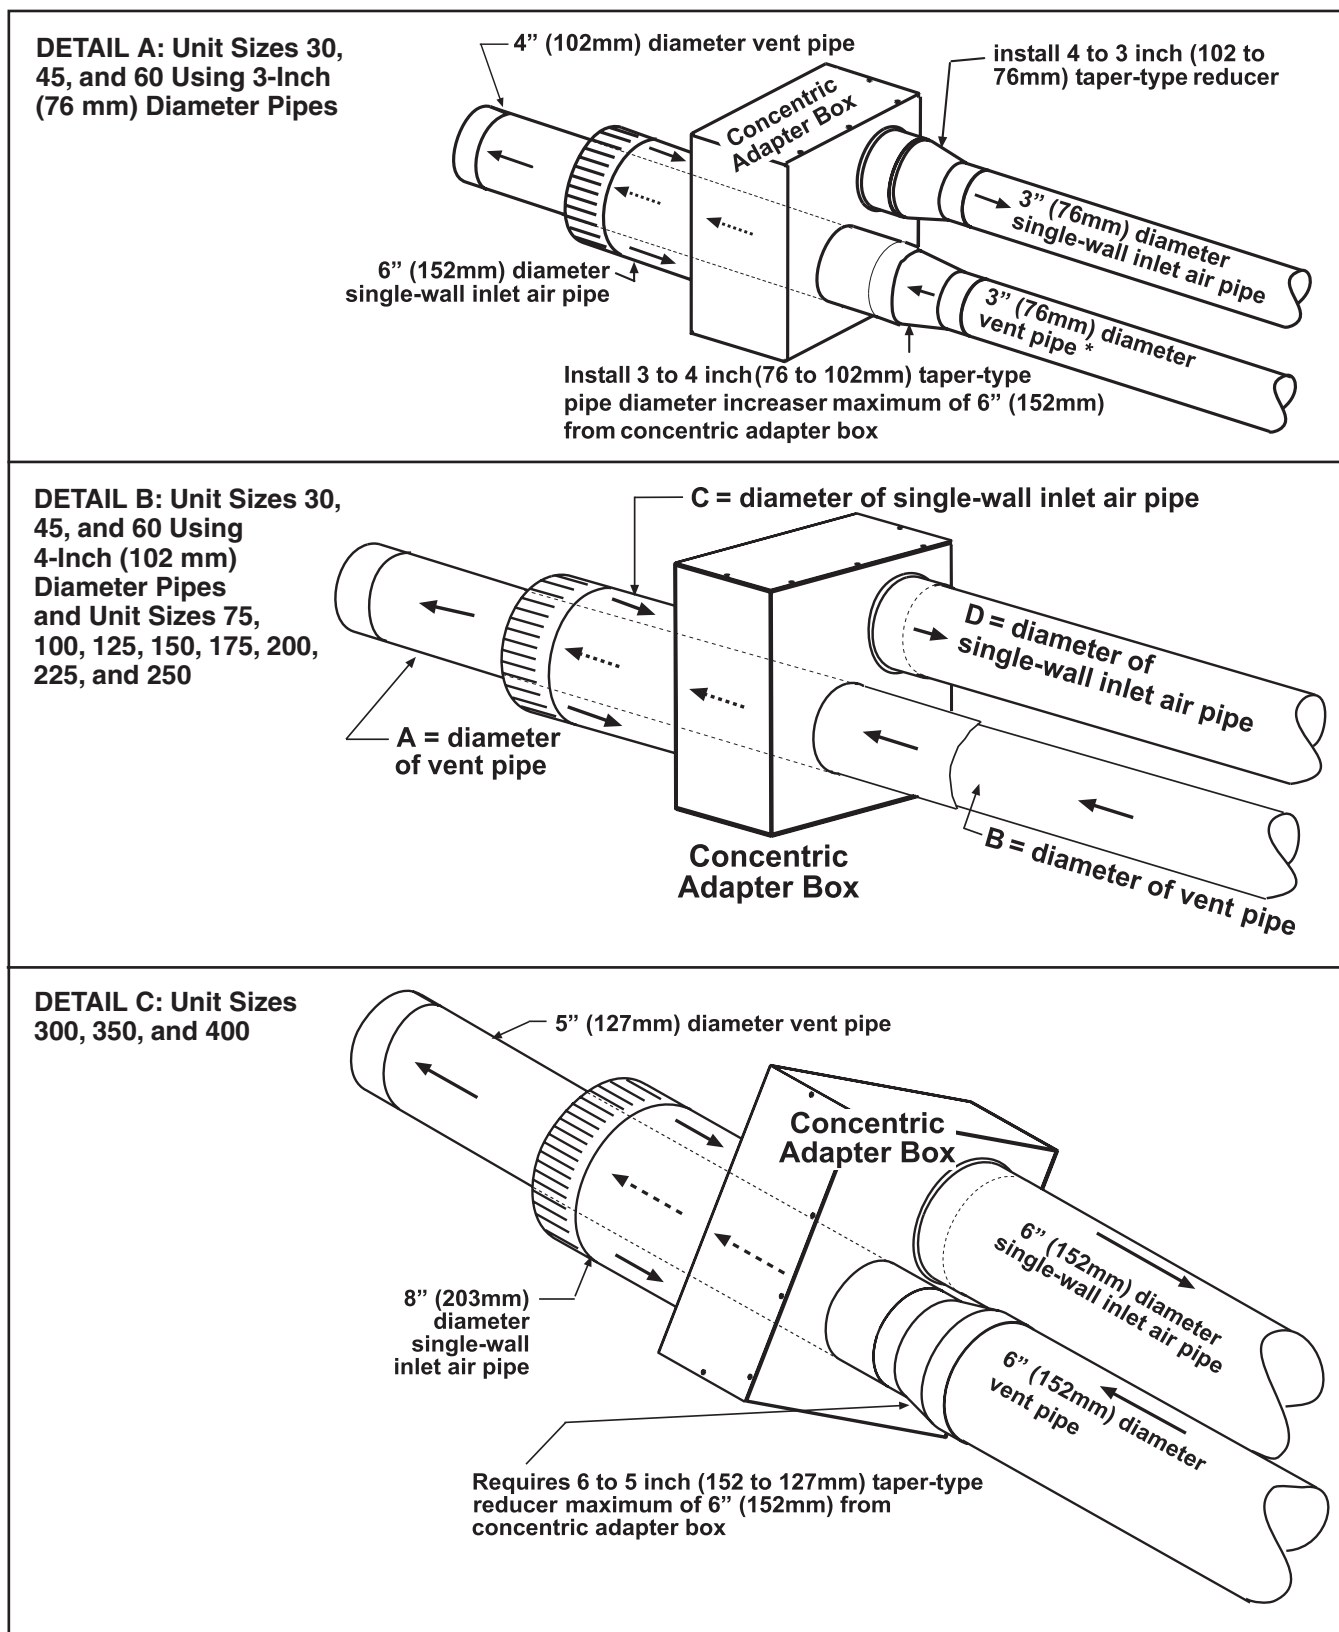

Figure 5. Concentric Adapter Box Connections (Refer to Table 5)
- **Figure 5** shows concentric adapter box connections.
- **Table 6** lists connection dimensions shown in **Figure 5**, DETAIL B.
- Unit sizes 300, 350, and 400 shown in **Figure 5**, DETAIL C always require a 6–5 inch (152–127 mm) taper-type reducer in the vent pipe.
*See Figure 5 .